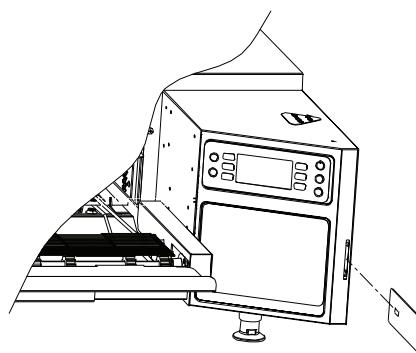

Figure 14: Loading a Smart Card
2. Insert a smart card into the smart card slot (Figures 14 and 15), with the gold chip facing the front of the oven.
- 1. Insert the gray smart card (see Figure 14, page 15) with the gold chip facing the front of the oven. If multiple smart cards are required, they will be labeled in sequence - ensure the correct sequence is followed.